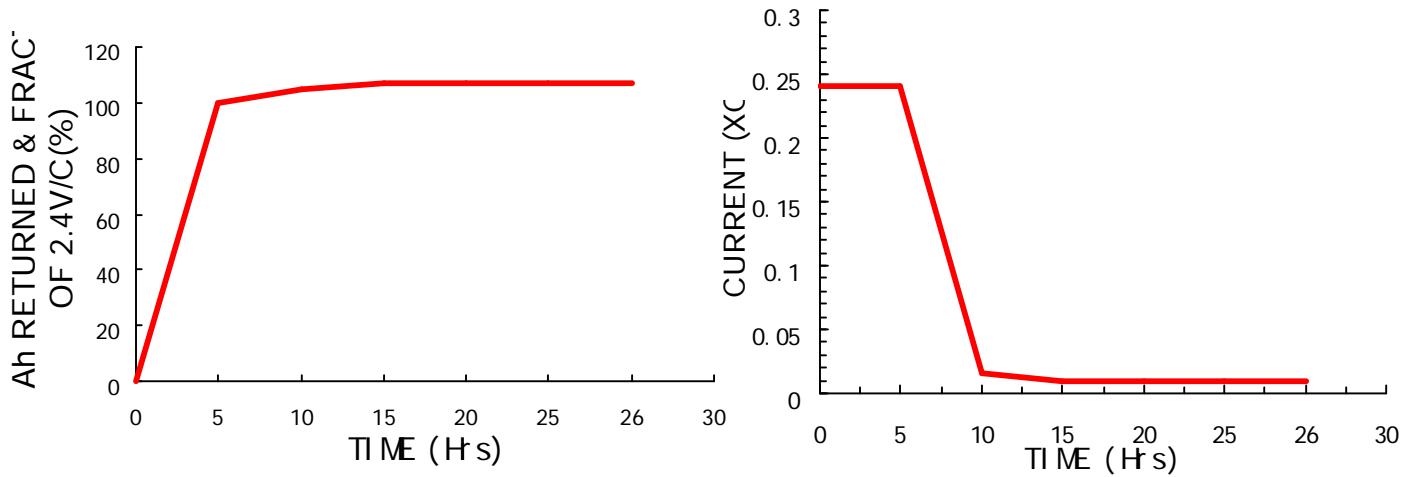

Fig 2. CYCLING SERVICE RECHARGE
- ii. Cycle service 2.40-2.45V/C at 25°C(Fig 2)